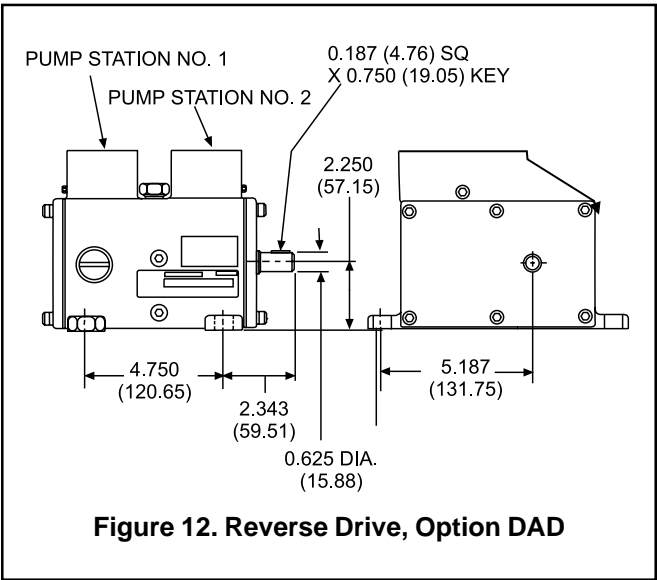

Figure 12. Reverse Drive, Option DAD
**Reverse Drive.** This drive is the same as the standard drive except the shaft extends from the right-hand side of the gearbox. Figure 12 illustrates the reverse drive, option DAD.